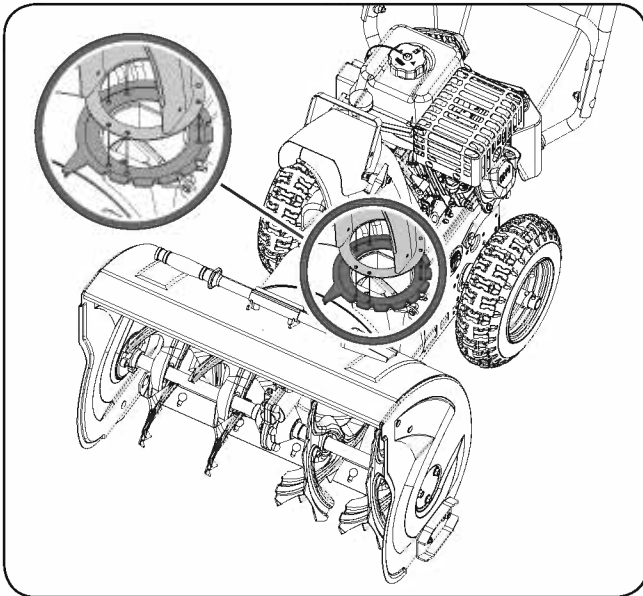

Figure 4b
- Place the discharge chute facing it forward over the chute crank flange. (See **Figure 4b**)